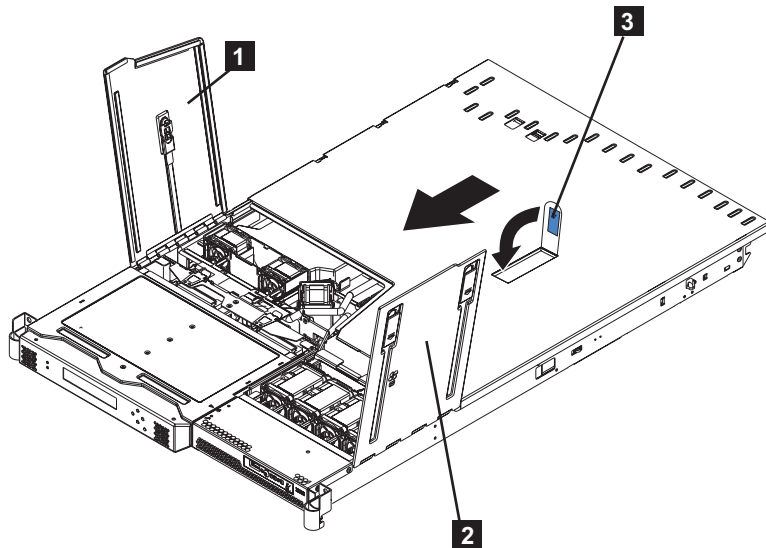

Figure 134. The SAN Volume Controller 2145-8F2 with the fan doors open
3. Press down on the cover release latch **3**, which is shown in Figure 134, until the cover properly engages all the inset tabs on the SAN Volume Controller 2145-8F2.